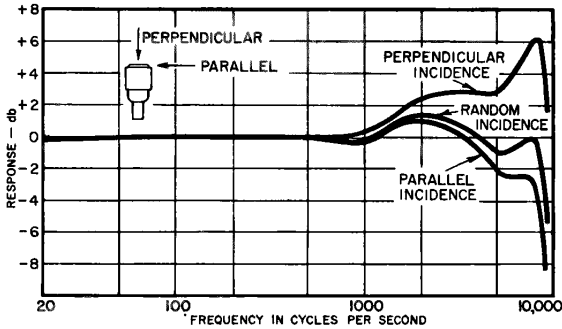

Figure 1-2. Response of the Type 1560-P4 PZT Microphone Assembly.
1. The frequency characteristic (Figure 1-2) is carefully controlled in manufacture to give a flat response to sounds of random incidence from 20 cps to 8 kc.